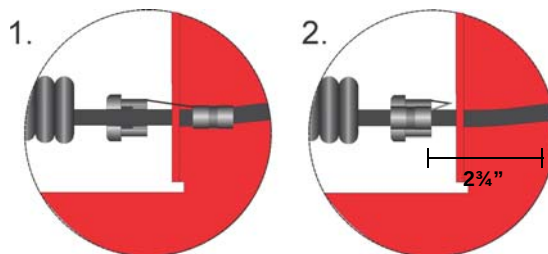

Figure 8: Installing Strain Relief Clip
3. Attach strain relief clip to microphone cord. The strain relief clip should have about 2¾" of microphone cord through it. See Figure 8.